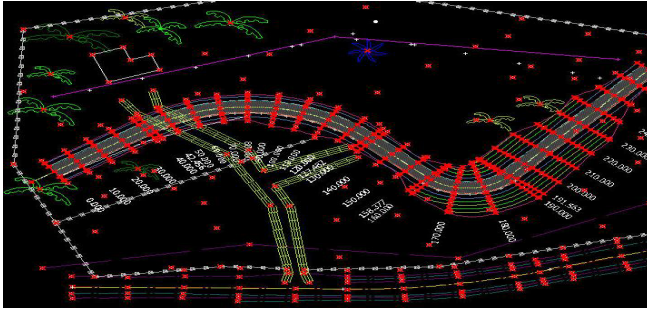

Figure 14-76. Points are Highlighted with a Red X
- Press **No** to display the points highlighted with a red X as shown in Figure 14-76.